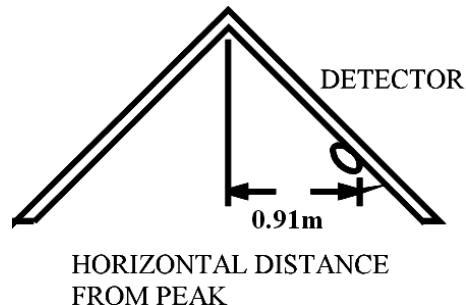

Fig. 5: Recommended location to mount smoke detectors in rooms with a sloped, gabled, or peaked ceiling
- If some of your rooms have sloped, peaked, or gabled ceilings, try to mount detectors 3 feet (0.92m) measured horizontally from the highest point of the ceiling as shown Fig. 5